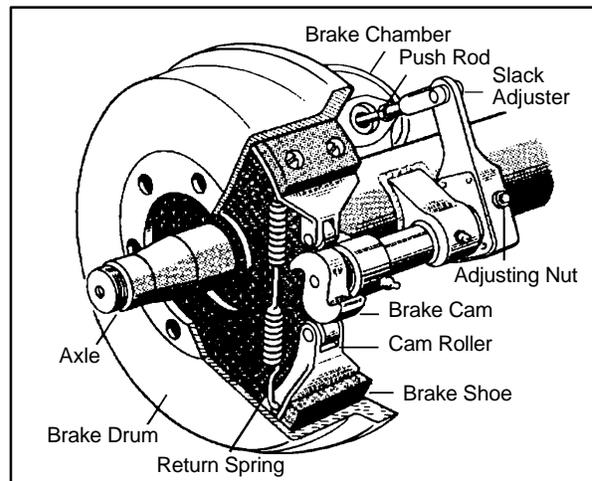

Figure 5-2: S-Cam Air Brake
Foundation brakes are used at each wheel. The most common type is the s-cam drum brake, shown in Figure 5-2. The parts of the brake are discussed below:
**S-Cam Brakes.** When you push the brake pedal, air is let into each brake chamber (see Figure 5-2). Air pressure pushes the rod out, moving the slack adjuster, thus twisting the brake cam shaft. This turns the s-cam (so called because it is shaped like the letter "S"). The s-cam forces the brake shoes away from one another and presses them against the inside of the brake drum. When you release the brake pedal, the s-cam rotates back and a spring pulls the